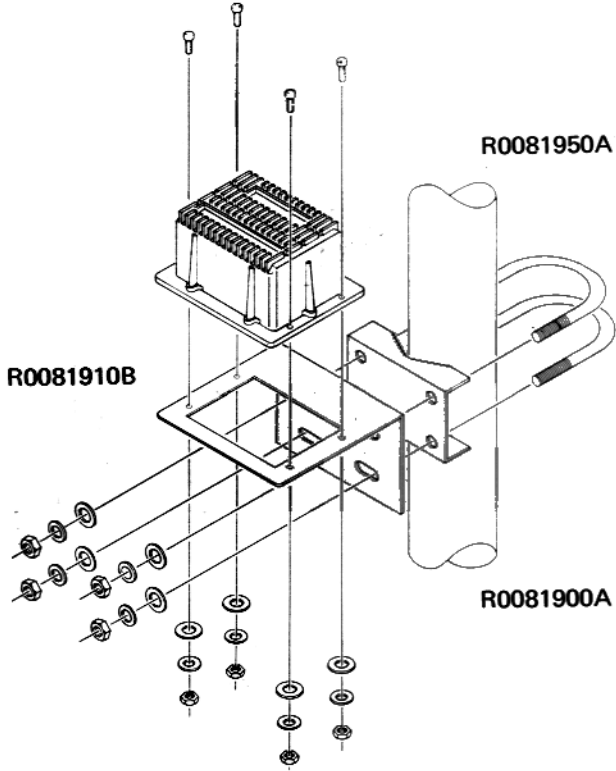

Figure 4
1. Bolt the FAS-1-4R to the angle bracket using the four screws, nuts and washers as shown in Figure 4 (Page 14).